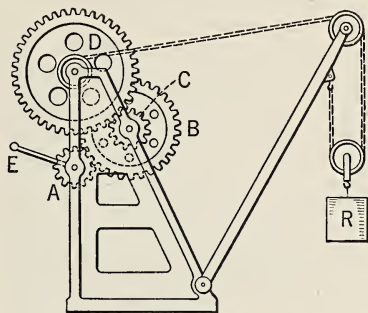

FIG. 289. The builder's crane. Is it similar to that of a wrecker car?
12. The crane of Fig. 289 has a lever arm of 20 in. The gear wheels *A*, *B*, *C*, and *D* have 12, 60, 12, and 72 cogs respectively. If the axle has a radius of 4 in., what is the mechanical advantage of the crane?